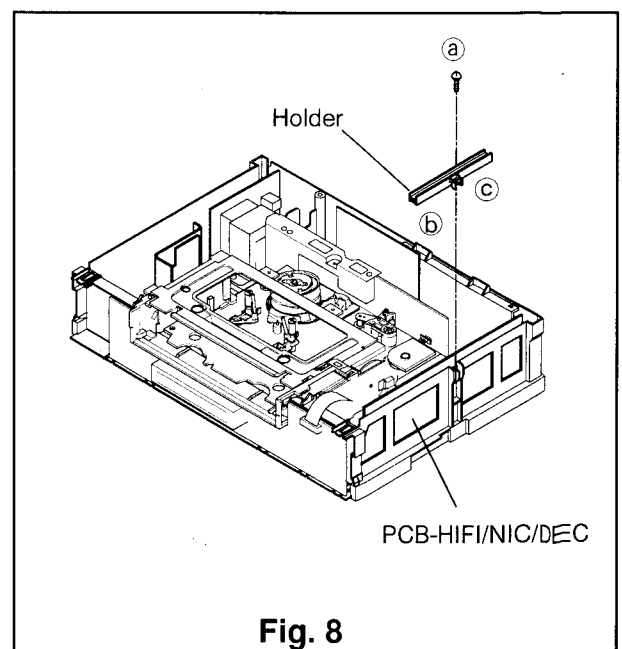

Fig. 8
- ③ If it is necessary to remove the PCB-HIFI/NIC/DEC, comply with the following steps.
- (1) Remove a screw (a) and unfasten two snaps (b) and (c) as shown in Fig. 8.
- (2) Disconnect the connectors (HB, HC) and raise the PCB-HIFI/NIC/DEC upward to remove it.